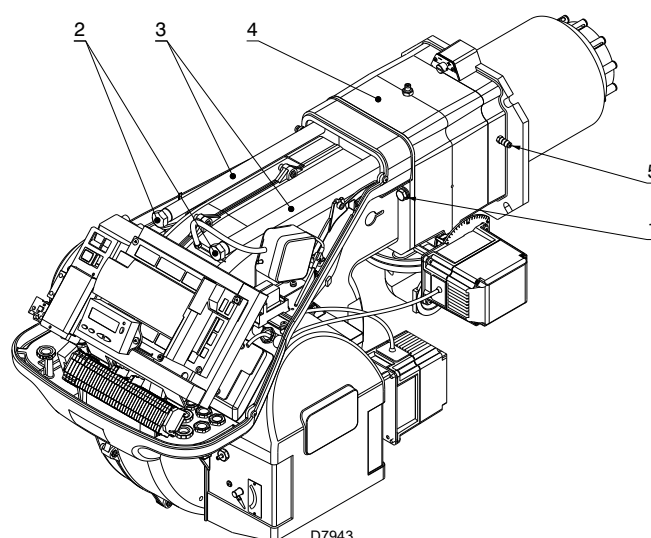

Fig. 21
- insert the probe and electrode cables, then slide the burner as far as the pipe coupling - burner in the position shown in Fig. 21;